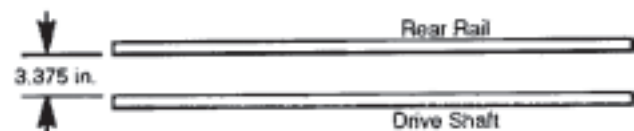

FIG. 29
2. Align the drive shaft and rear carriage rail (FIG. 29) so the distance between their facing surfaces is 3.375" +/- .010 [85.75 mm +/- 0.25]. See FIG. 29. Then tighten the support block bolts.